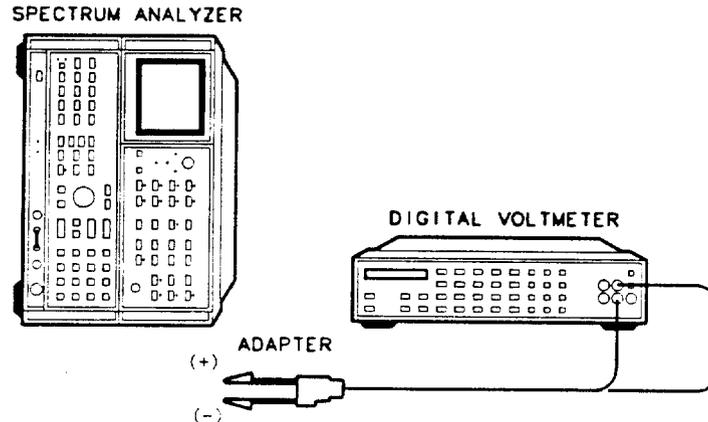

Figure 1. Low-Voltage Power Supply Adjustments Setup
1. Position the instrument on its right side with the IF-display section facing right, as shown in Figure 1.